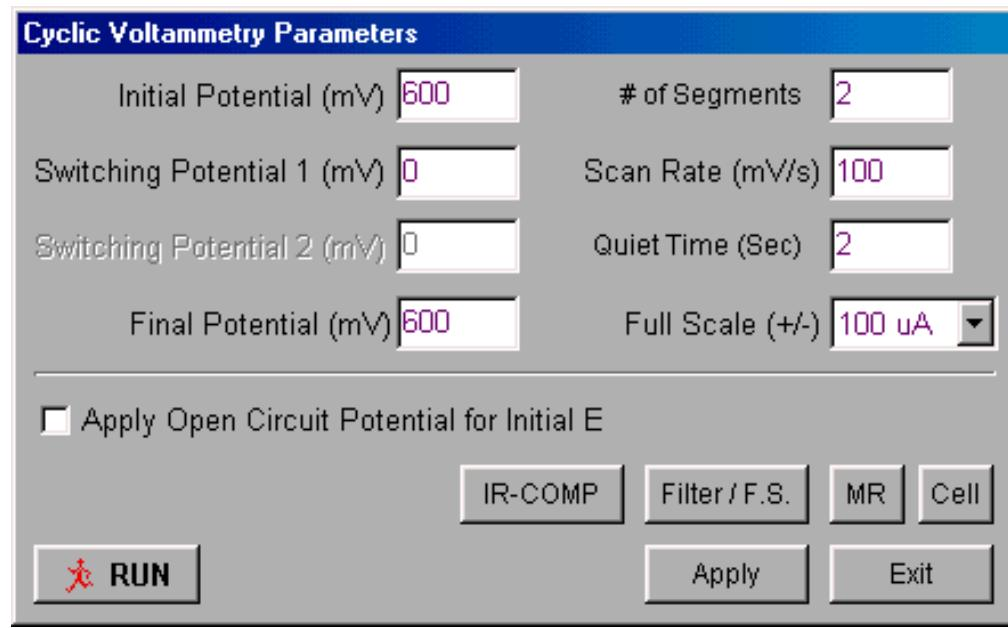
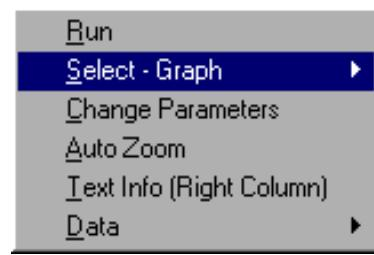

Figure 2. Change Parameters dialog box for Cyclic Voltammetry.
Figure 3. Right mouse button pop-up menu.
4. Select **Cyclic Voltammetry**. The **Change Parameters** dialog box will now be displayed. Enter the values shown in **Figure 2**. Note that **Switching Potential 2** is not required since there are only 2 segments (**Initial Potential** to **Switching Potential 1** to **Final Potential**). Once these changes have been entered, an experiment using these parameters can be run by clicking the **RUN** button in this dialog box. If an experiment is not to be run immediately, but these parameters are to be saved, then the **Apply** button must be clicked before exiting the dialog box. If **Exit** is clicked before **Apply**, any changes in the parameters will be lost. After exiting the dialog box, an experiment can be run using either **Run** in the **Experiment** menu, in the pop-up menu obtained by clicking the **RIGHT** mouse button (**Figure 3**), the **RUN** icon on the **Tool Bar**, or the **F5** key. This icon will change to **STOP** during the experiment, and can be used to abort the experiment.